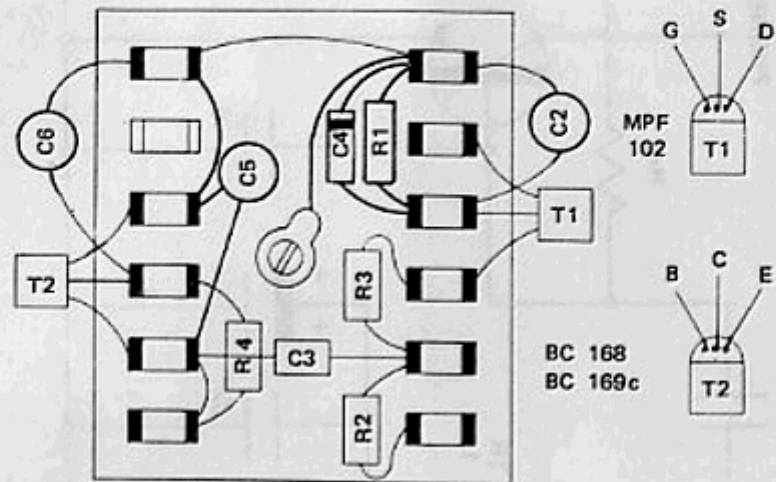

Fig. 1.
5. Solder the wire links on the tag board and mount the various resistors and capacitors in the positions shown in Fig. 1. The wire leads on these components should be shortened to make neat wiring, and "tinned" first to assist soldering. Note position of black band on C4.
6. Examine the transistor connections as shown in Fig. 1 and spread the outer leads carefully to span the tags on the tag board. Note that they have a 'flat' on one side. The transistors should now be soldered to their relevant tags, taking great care that they are not overheated by the soldering iron. Just a quick touch with the iron should be sufficient. These should be mounted vertically with their flat sides outwards from the centre of the tag board.